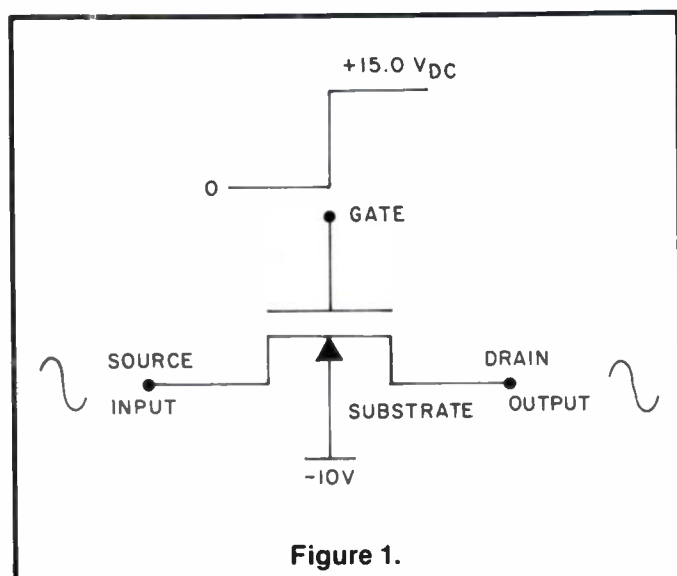
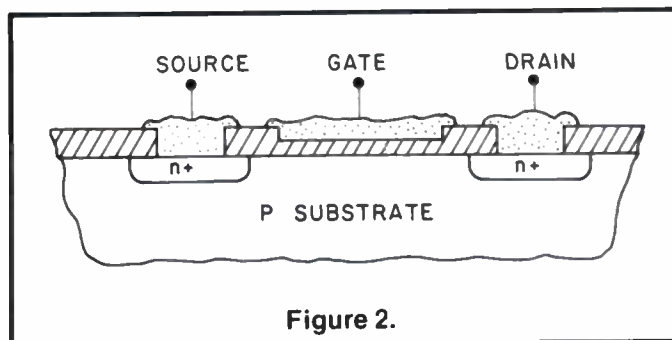
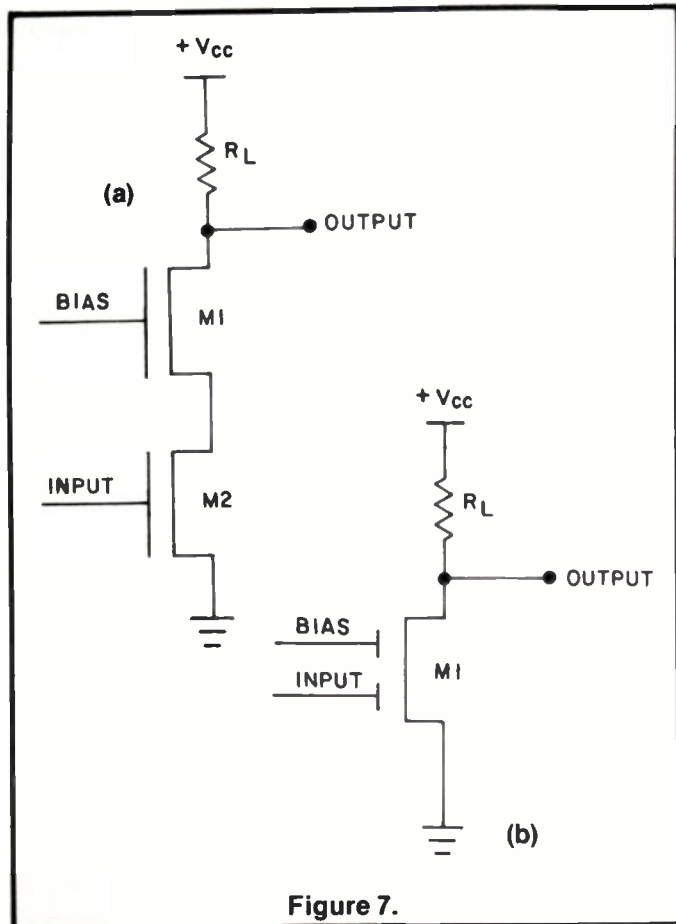

Figure 1.
Figure 2.
Figure 7.
Conventional MOS transistor switches have been in the market over ten years. Figure 1 illustrates a typical configuration for an analog switch.
1. The substrate must be biased more negative than the most negative portion of the signal to avoid current flow to the bulk. From the device structure, which is shown in Figure 2, it is obvious that if the source to substrate dropped more than 0.7 volts, the forward biased PN-junction would allow current flow. Thus the scheme shown in Figure 1 requires a negative bias at the substrate for proper operation.
The major capacitance which determines the isolation in Figure 1 is C_{ds} (drain to source capacitance). This capacitance is a combination of C_{gs} , C_{gd} , C_{sb} and C_{db} . It cannot be removed by circuit techniques or by changing the control voltage. Typically in a SD210 device, this capacitance is on the order of 2.0 pFd. This produces an impedance of about $-j800$ ohms at 100 MHz. Thus whether the switch is "ON" or "OFF", a reactive term of $-j800$ ohms is always present. This corresponds to about 12 dB of isolation at 100 MHz in a 50 ohm system. If two devices are paralleled, the "on resistance" will be halved but the isolation capacitance will double, thus losing another 3 dB of isolation. The trade-offs in such a scheme is either low "on resistance" with poor isolation or moderate "on resistance" with moderate isolation. Either choice is not adequate for most applications at VHF.
Other advantages of this structure have been discussed in the literature^{1,2}. Using this scheme in a common source configuration has yielded 40 dB of isolation at 100 MHz. This is much better than the traditional configuration shown in Figure 1. Since C_{gd} is small, "Miller capacitance," is also kept to a minimum thus yielding better high frequency performance. However, this nonlinear capacitance can cause loading of the input signal and thus increase distortion products. A cascode configuration³, shown in Figure 7, can improve the high frequency distortion characteristics, frequency response and at the same time